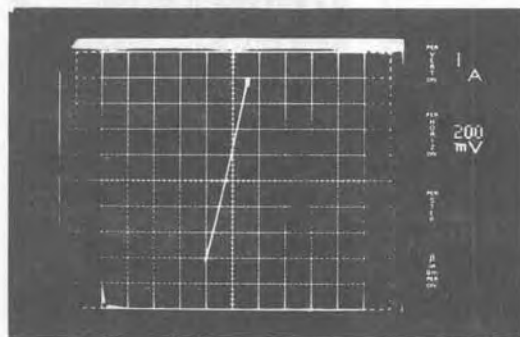

Figure 10. Source-Drain Voltage ( $V_{SD}$ )
- The device is connected using the LEFT/RIGHT switch. Increase the VARIABLE COLLECTOR SUPPLY voltage until rated current is reached ( $9 \text{ A}$  for the IRF630). Read  $V_{SD}$  from the trace (see Figure 10).